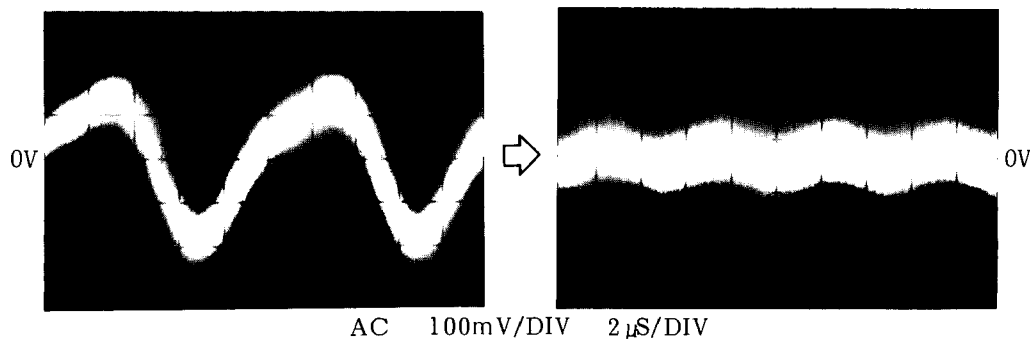

Figure 5-5. Amplitude Adjustment.
5. Adjust A2R16 and R17 (OFFSET) until the amplitude of the waveform displayed on the oscilloscope is minimized as shown in Figure 5-5.